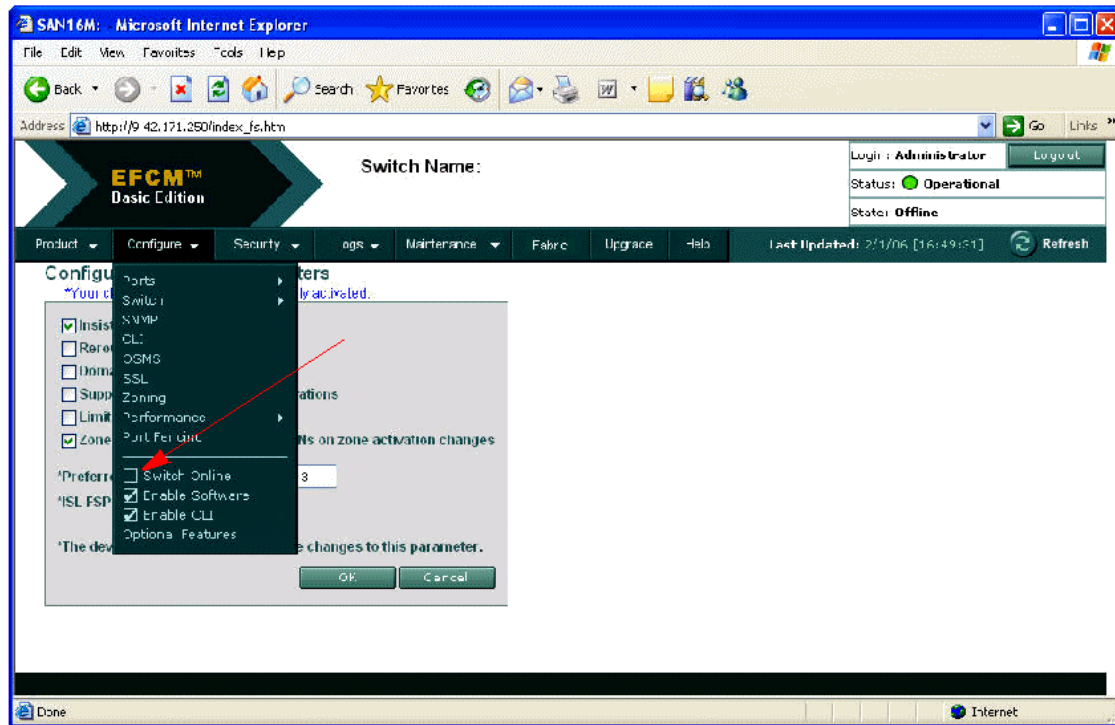

Figure 6-15 Configure window
- To set the switch back to an online state, select **Configure** → **Switch Online** and check the check box (Figure 6-15).